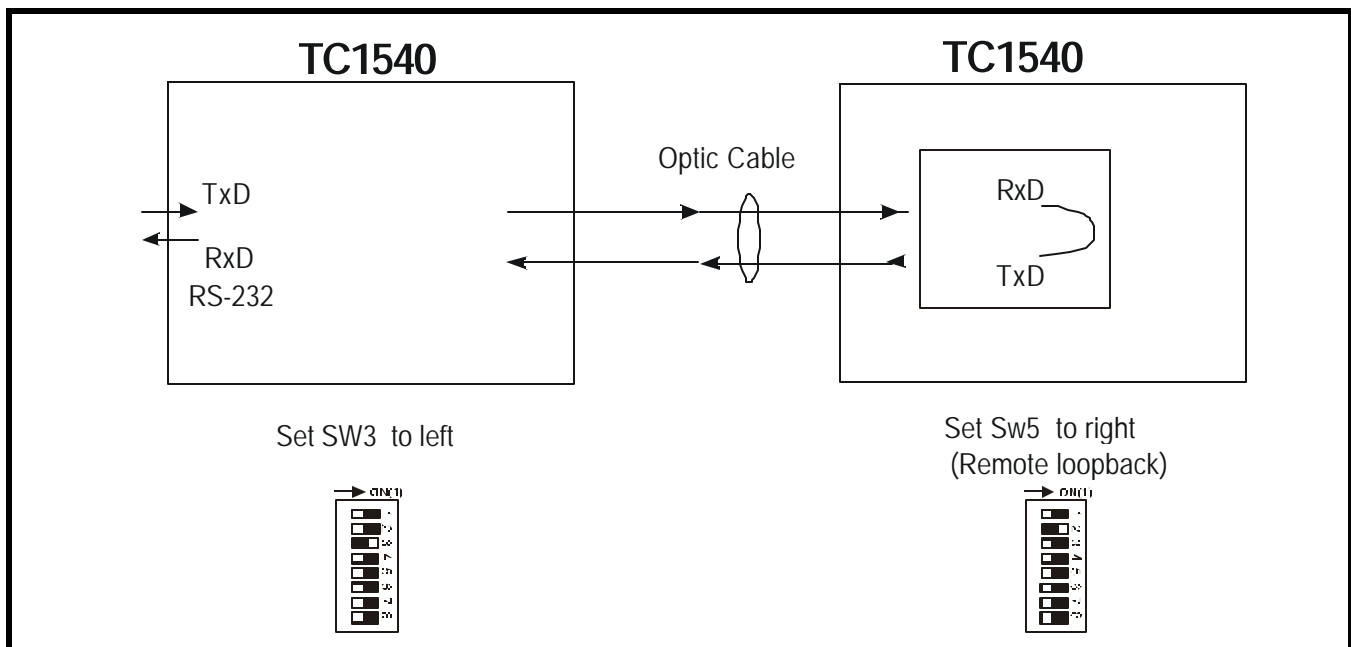

Figure 14. Signal Generator Bench Test Connection Diagram
1. Set up the bench test as shown in Figure 14. At the local TC1540 unit, turn on the "SIGGEN" by sliding **SW3** to the Right. The "TD" LED on the local TC1540 should start blinking. Likewise, the "RD" LED on the remote TC1540 should also blink, indicating receipt of the local unit's simulated polling message.